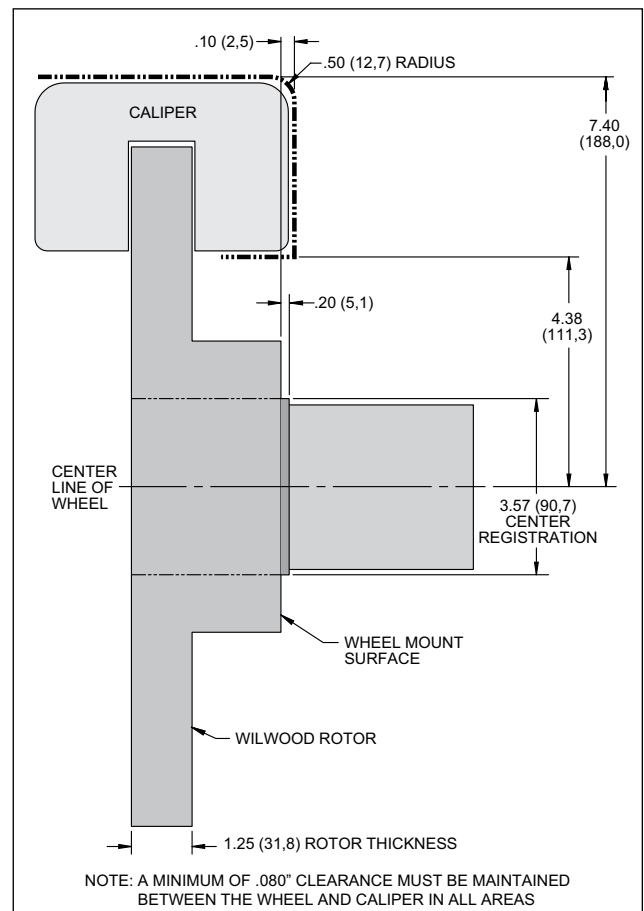

Figure 2. Wheel Clearance Diagram
- Review the Wheel Clearance Diagram (Figure 2, page 3) to verify that there is adequate clearance with the wheels you will be using with the installation.
- Verify your wheel clearance using Figure 2.
- **CAUTION:** Wheel fitment to OEM hub interference must be checked. There is a 3.57" diameter step on the hub face that was used to register the old brake drum (Figure 2). Be sure your wheel fits flush against the hub face. If the step interferes, you will need to use a wheel spacer (customer supplied) to clear the step.
•Temporarily install the wheel and torque the lug nuts to the manufacturer's specification. Ensure that the wheel rotates freely without any interference. **CAUTION:** *Wheel fitment to OEM hub interference must be checked.* There is a 3.57" diameter step on the hub face that was used to register the old brake drum (Figure 2). Be sure your wheel fits flush against the hub face. If the step interferes, you will need to use a wheel spacer (customer supplied) to clear the step.
•**NOTE:** OEM rubber brake hoses generally cannot be adapted to Wilwood calipers. The caliper inlet fitting is a 1/8-27 NPT (use PTFE tape on pipe threads for proper sealing to caliper). Install Wilwood's stainless steel braided flexline hose kit (21), P/N 220-13319 included with this kit. **Carefully route hoses to prevent contact with moving suspension, brake or wheel components.** **NOTE:** *Wilwood hose kits are designed for use in many different vehicle applications and it is the installer's responsibility to properly route and ensure adequate clearance and retention for brake hose components.*